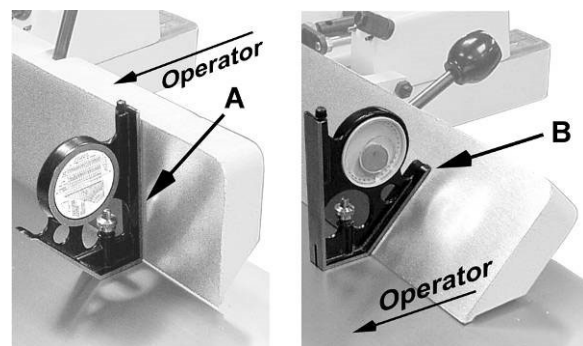

Figure 15
2. Move the fence by releasing *lock handle* (A) and pushing the fence assembly until it overlaps the tables.
3. Tighten *lock handle* (A).
4. Adjust the fence to a 90° angle by releasing *lock handle* (B), pulling up on the *fence handle* (E), and tightening the *lock handle* (B).
**Note:** The *stop bolt* (F) should be resting against the *stop block* (C).
5. Place an angle measuring device on the table and against the fence to confirm a 90° setting (A, Fig. 15).
6. If the fence is not square to the table, release the *lock handle* (B), loosen the *lock nut* (D) that secures the *stop bolt* (F), and turn the stop bolt until the fence is square to the table.
7. Tighten the *lock nut* (D) to secure the *stop bolt* (F) which retains the setting.
8. Tighten the *lock handle* (B).
1. Loosen the lock handle (B).
2. Move the stop block (C) out of the way and position the fence at the 135° angle; fence tilt lever (E) is positioned away from the operator as shown. Make sure the fence sits against the *stop bolt* (H).
3. Tighten the lock handle (B).
4. Place an angle measuring device on the table and against the fence to confirm a 135° setting (B, Fig. 15).
5. To adjust, loosen the *lock nut* (J) securing the *stop bolt* (H) and turn the stop bolt until a 135° angle of the fence is obtained.
6. Tighten the *lock nut* (J).